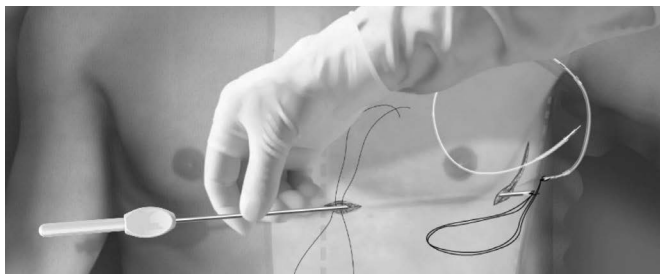

Figure 13: *Connecting the distal end of the subcutaneous electrode to the EIT*
3. Using conventional suture material, tie the anchoring hole of the subcutaneous electrode to the EIT creating a long 15-16 cm loop (*Figure 13*).